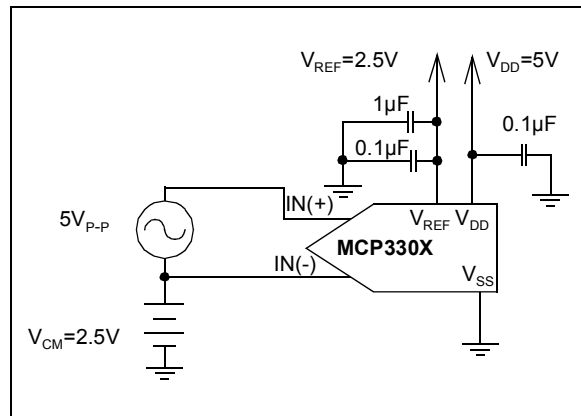

FIGURE 3-5: Pseudo Differential Test Configuration Example.
**Pseudo-Differential Input** - Applying a single ended signal to only one of the input channels with a bipolar output is referred to as pseudo differential operation. To obtain a bipolar output from a single ended input signal the inverting input of the A/D converter must be biased above  $V_{SS}$ . This operation is described in Figure 3-5.